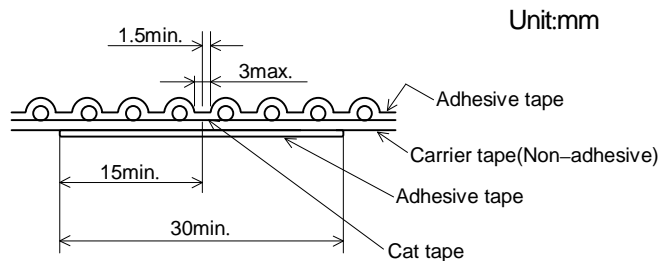

Figure-5
9.3.6 The reinforcement of the tape cutting should be reinforced by a new tape (30mm min.) in 3mm limits and insuring 1 pitch dimension as shown in Figure-5.